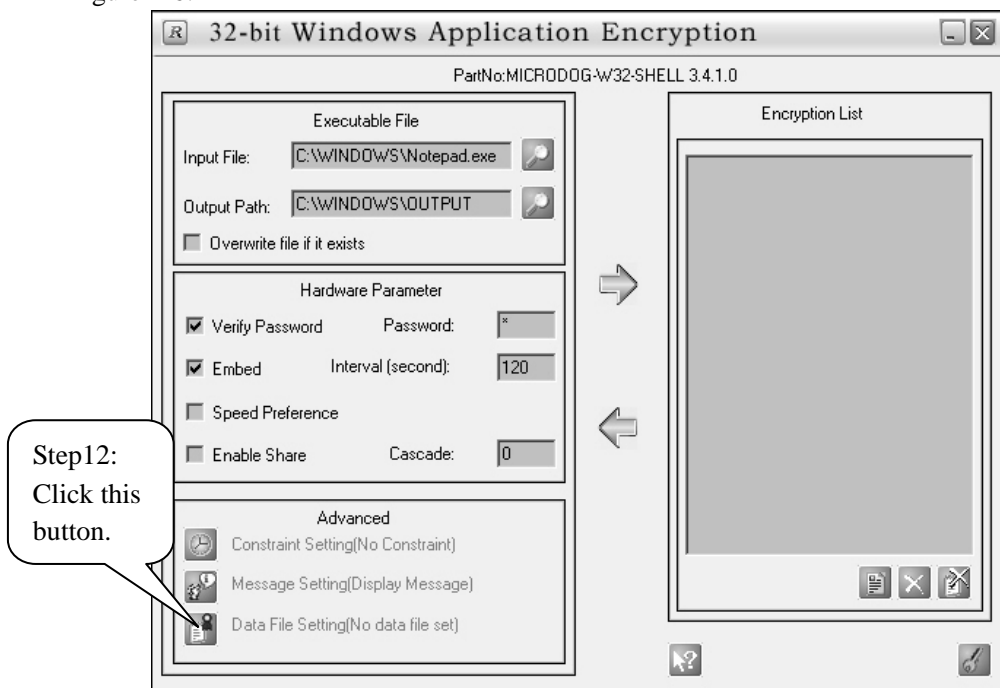

Figure 4-6
5. If you want to encrypt data file while encrypting the EXE file, follow the Step12 on Figure 4-6: